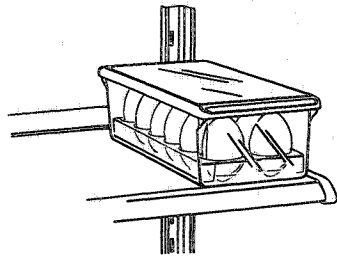

Figure 11
- a. All models have a take-to-the-counter egg bucket with a removable tray. See Figure 11.